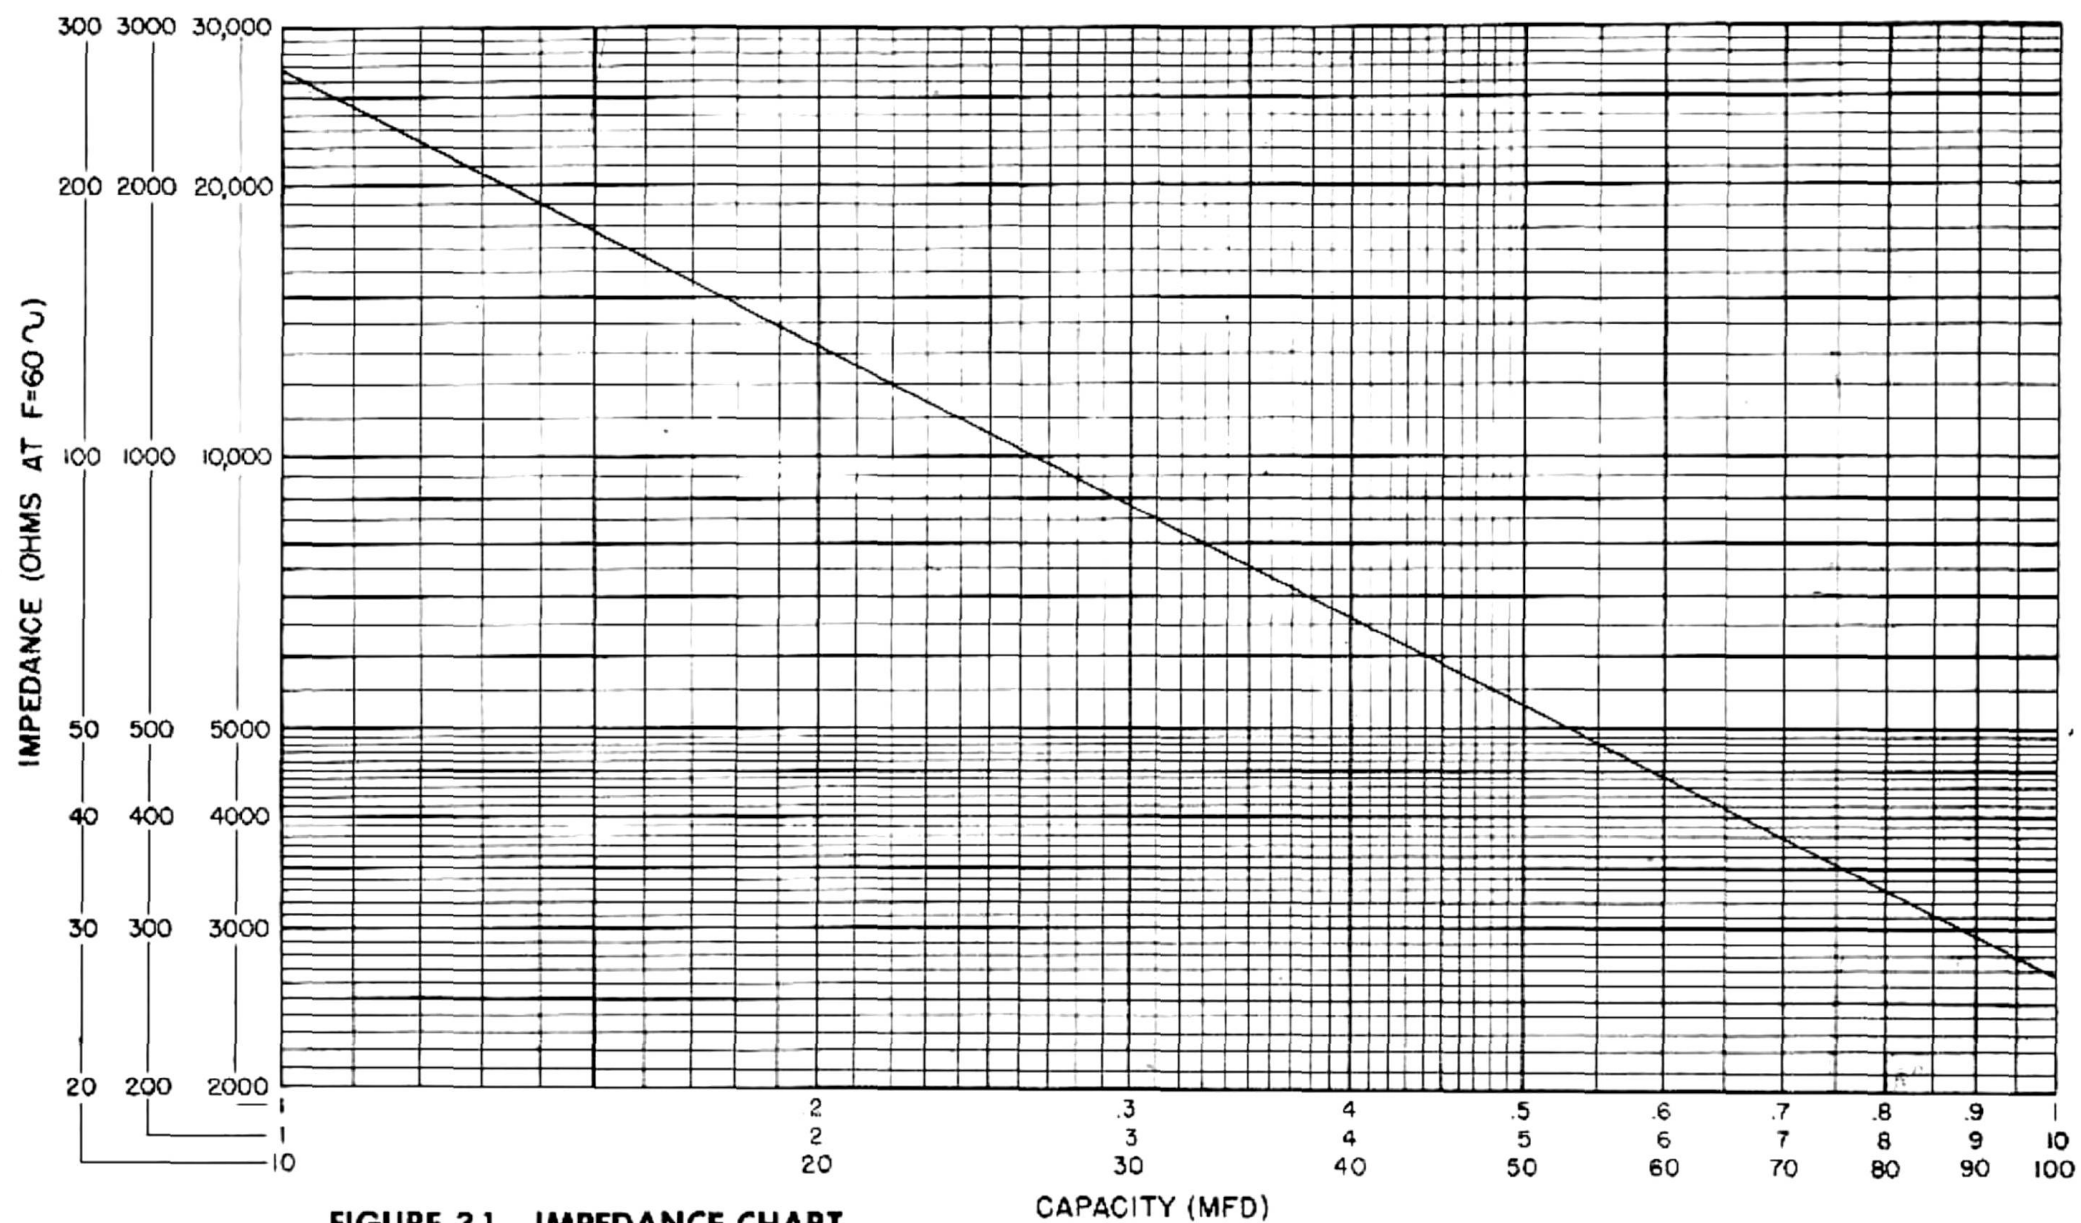

FIGURE 3.1 - IMPEDANCE CHART
The theory of the inductance measurements is similar to that of a capacitance measurement with the impedance of the inductance coil replacing the impedance of the capacitor. As the capacity scale is used in making measurements, a chart is given in Figure 3.1 which relates capacity readings to impedances. This impedance, in its effect in the circuit, may be due to either an inductance or a capacitor. A second scale on the chart evaluates the coil directly in henries and may be used if the ohmic resistance of the coil is low.
(1) Read the numerical value of the capacity directly from the scale. Find the associated impedance on the graph given in Figure 3.1. This value is Z_L in the formula which is given in (3) below.
(2) Determine the resistance of the inductance by means of an ohmmeter. This value is R_L in the same formula.
(3) Knowing Z_L and R_L , we can determine the inductance from the formula:
Therefore, the error due to the resistance is greater than 1%. Referring to the graph in Figure 3.1, we find that the impedance for a capacity reading of 8.8 MFD is 300 ohms. Substituting in the formula, we have: